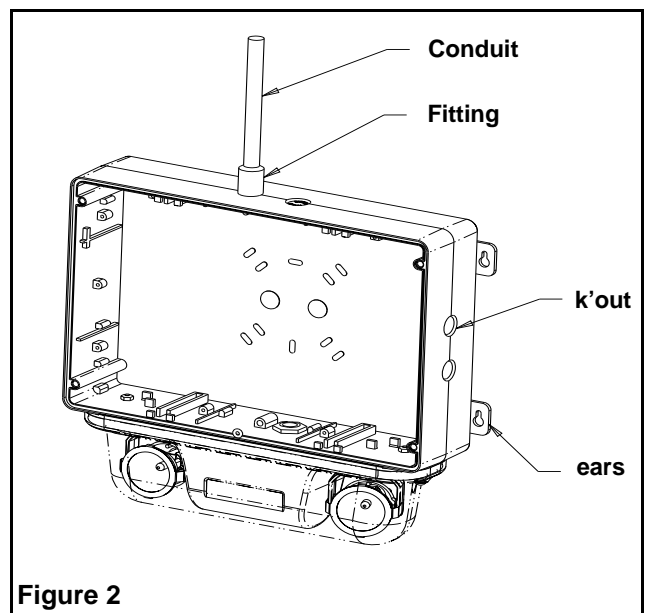

Figure 2
- a. Install the unit on the wall with 4 screws (not provided). Use the ears located on each side (see figure 2).